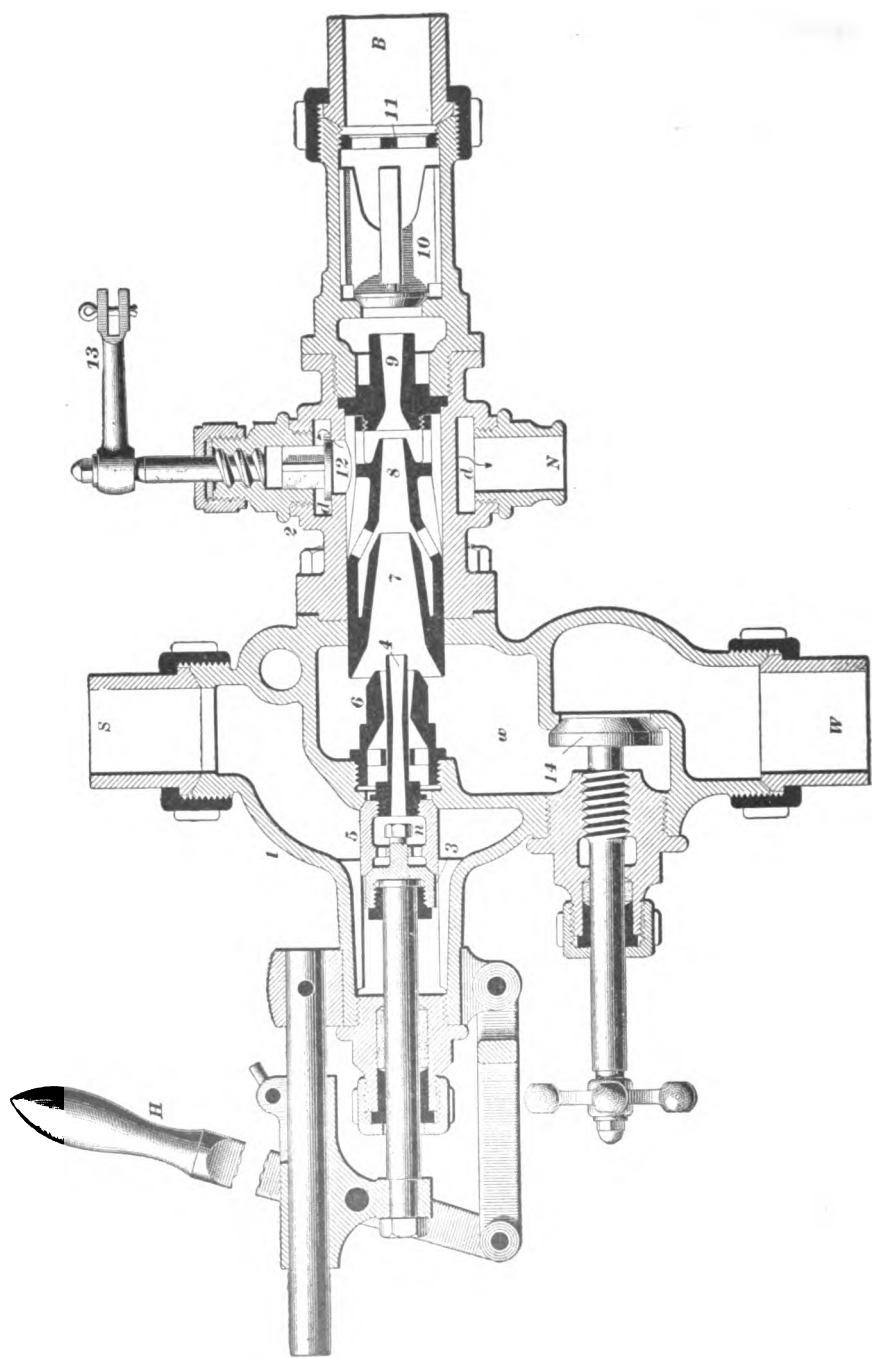

FIG. 12
**31. Description.**—In Fig. 12 is illustrated the latest type of the **Monitor injector** in section, showing the arrangement of the nozzles and other parts. 1 and 2 are the front and the back parts, respectively, of the body of the injector; 3, the lifter valve; 4, the lifter steam nozzle; 5, the steam valve; 6, the steam nozzle; 7, the lifting tube; 8, the condensing tube; 9, the delivery tube; 10, the line check-valve; *S*, the steam connection; *W*, the water connection; and *B*, the delivery to boiler.